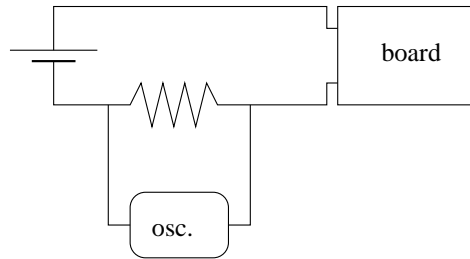

Fig. 3. ...and read the current consumption of the board.
- Connect the oscilloscope onto the resistor as in Fig. 3. What you read is the current consumption in amps of the board ($U = R \cdot I$, with $R = 1\Omega$).